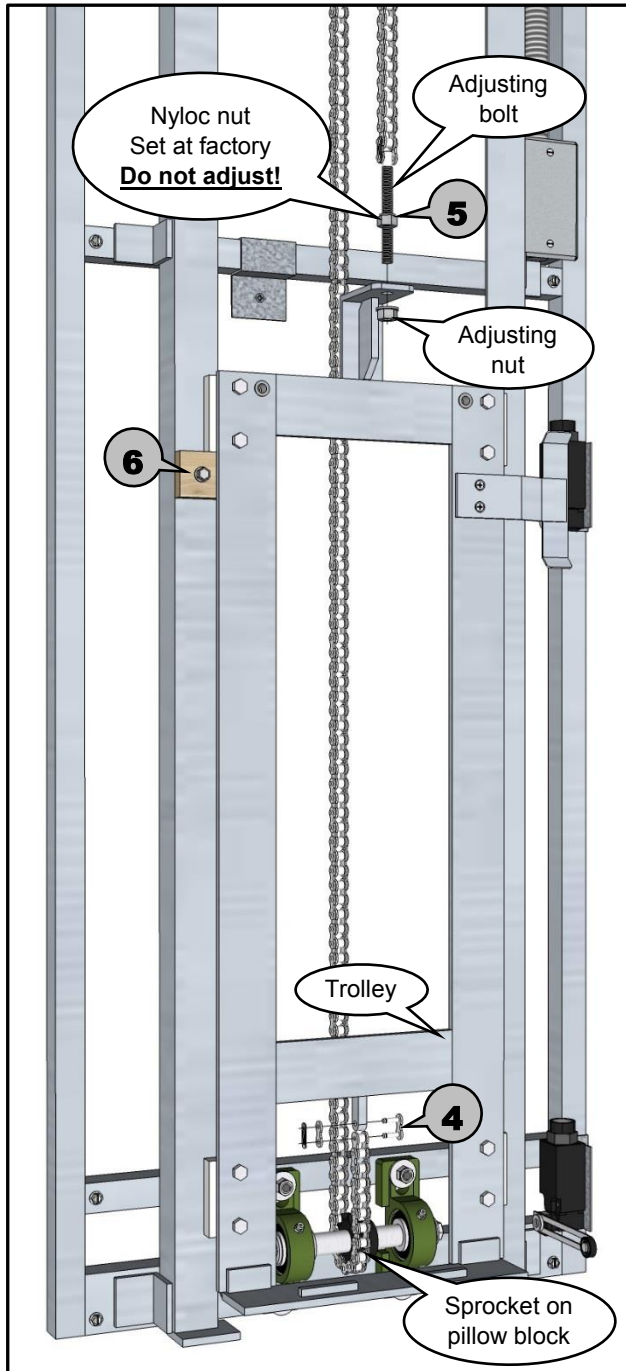

Figure 9
- 4 One end of the chain should hang down behind the trolley and be placed around sprocket on the pillow block. Then use provided master link, attached near the bottom of the trolley with a plastic tie, to connect chain to bottom end of trolley. (see Figure 9)
- 5 The other end of the chain with the adjusting bolt should hang down near the top of the trolley. Insert the threaded adjusting bolt, on the end of the chain, into the hole on the top of the trolley where the adjusting nut is tied on, and use the adjusting nut to secure the adjusting bolt to the trolley. Use a blade screwdriver or needle nose pliers to hold chain from twisting and tighten adjusting nut until Nyloc nut is tightly seated against trolley. **Do not adjust Nyloc!** (see Figure 9)
- 6 Some machines will have a trolley stop screwed to the track for shipping purposes, and it should be removed at this time. (see Figure 9)